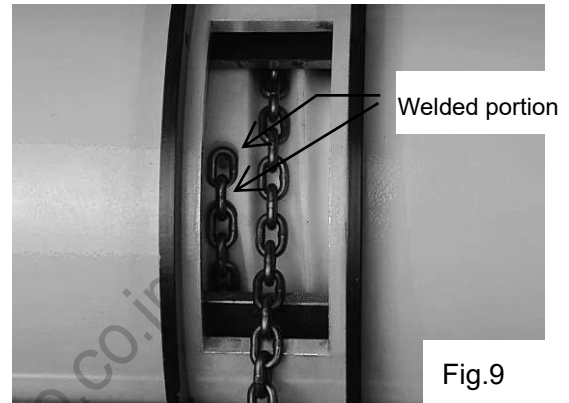
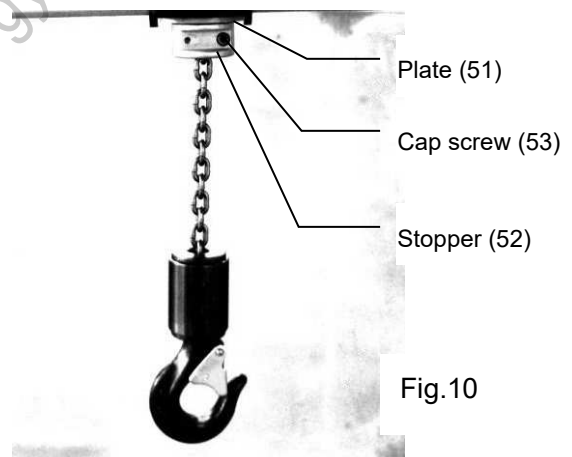

Fig.9
Fig.10
- (5) Pull another end of wire to wind up the chain on drum.
- (6) Remove the wire from chain(45) and mount the chain on the drum with Cap screw(46) and Washer(47).
*Make sure that the welded portion always comes to be right side and faces upward. (Refer Fig.9)
- (7) Pass Chain(45) through Chain guide(48) and mount Chain guide (48) on Case(1)
*Tighten U-nut (50) until Hanger(12) touches Chain guide (48)
- (8) After mounting Chain guide(48), lift the air balancer with a crane etc and make a temporary piping. Retrieve Chain (45) fully and slowly with the air pressure of 0.1MPa or less.
- (9) Pass Chain through into Plate(51) and mount Stopper (52) with Cap screw (53) and CD-washer(54)
*Make sure that Plate(51) should slightly keep away from chain guide(48) (Refer Fig.10)